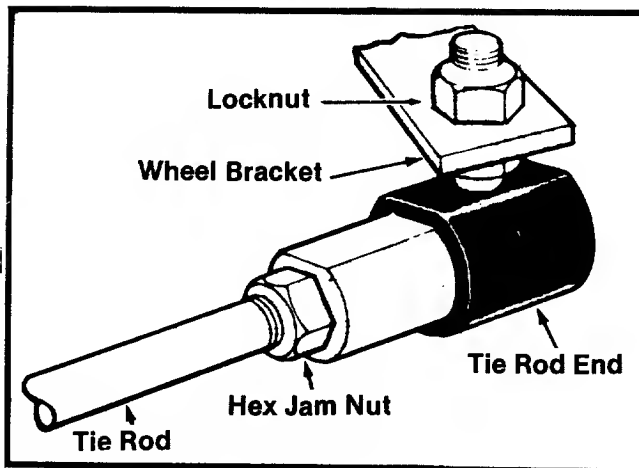

FIGURE 23. TIE ROD END
The caster (forward slant of the kingpin) and the camber (tilt of the wheels out at the top) requires no adjustment. Automotive steering principles have been used to determine the caster and camber on the tractor. The front wheels should toe-in 1/8 inch. To adjust the toe-in, loosen the hex jam nut, remove the elastic locknut, drop the tie-rod end out of the hole in the steering arm and screw the tie-rod end in or out to make the adjustment. The distance "B" must be less than "A" by 1/8 inch. See figures 23 and 24.
1. Remove the elastic locknut and drop the tie rod from the wheel bracket. See figure 23.
2. Loosen the hex jam nut on the tie rod. See figure 23.